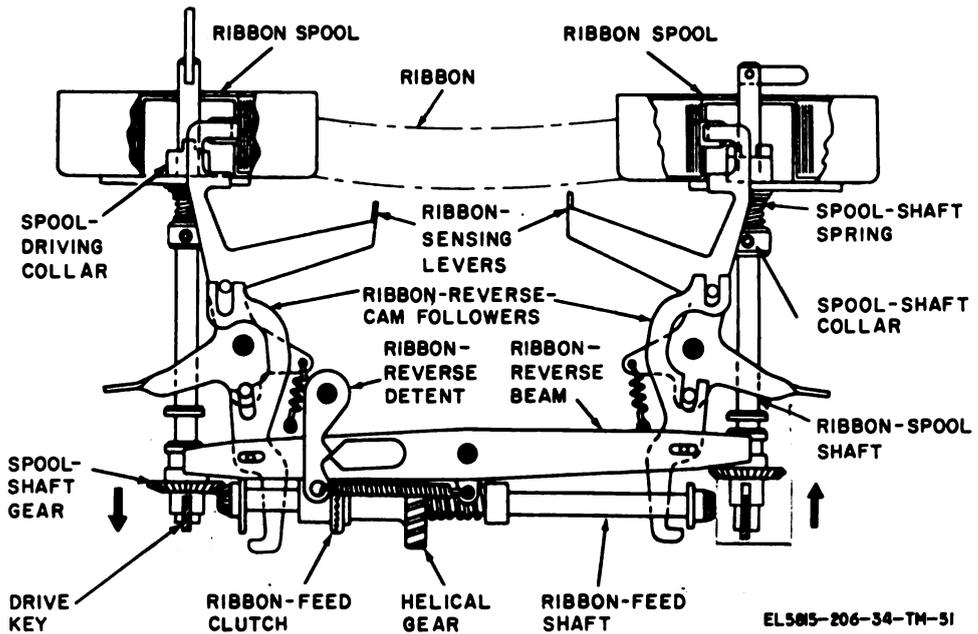
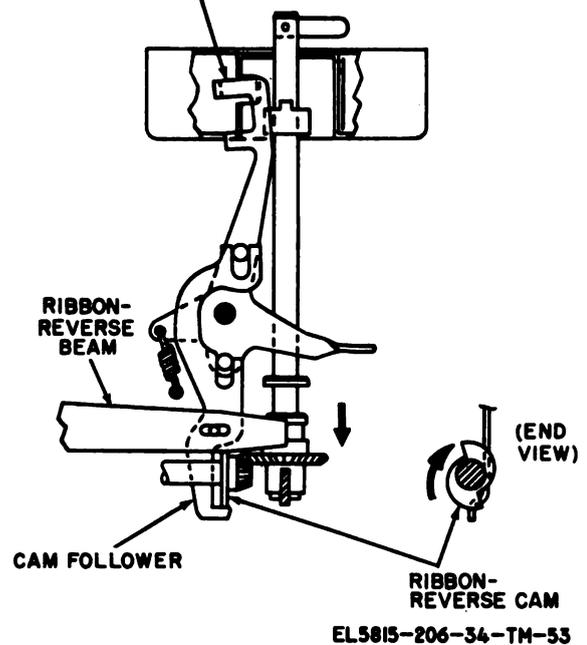

Figure 2-51. Ribbon-feed mechanism positioned for feeding ribbon from right ribbon spool to left ribbon spool (TT-4A/TG, TT-4B/TG, TT-698/TG and TT-698A/TG).
Figure 2-53. Ribbon reverse mechanism.
Two ribbon spools and enough ribbon to fill one of the spools are mounted on the carriage (fig. 2-51). During operation of the page printer, one of the spools turns slowly to pull the ribbon from the opposite spool (*a* below). When the ribbon is almost completely wound on one spool, the ribbon-reverse operation (*b* below) reverses the direction of ribbon feed.
b. Ribbon-Reverse Operation. The ribbon-reverse beam, ribbon-reverse cam, ribbon-reverse cam follower, and ribbon-sensing lever on each side of the ribbon-feed mechanism (fig. 2-51) are used to reverse the direction of ribbon feed.
(1) When the left end of the beam is in the downward position, the left spool-shaft gear is in mesh with its associated bevel gear on the end of the ribbon-feed shaft. Operation of the page printer causes the left ribbon spool to rotate, pulling the ribbon from the ribbon spool on the right side of the ribbon-feed mechanism.
(2) When the final turn of ribbon is being unwound from the right ribbon spool, the upper end of the right ribbon-sensing lever (fig. 2-53) moves to the left, through an opening in the hub of the ribbon spool. The lower end of the cam follower moves under the ribbon-reverse cam on the right end of the ribbon-feed shaft. Continued rotation of the shaft causes the cam to push the cam follower downward, pulling the right end of the ribbon-reverse beam downward. The right spool-shaft gear also moves downward into engagement with its associated gear on the ribbon-feed shaft; the left spool-shaft gear moves upward out of engagement with its associated gear; and the direction of ribbon feed is reversed.